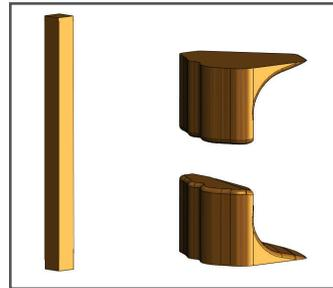

Figure 30: CAD model of region 2 with reference feature.
3.5.1.3. Extract second region (Figure 30).